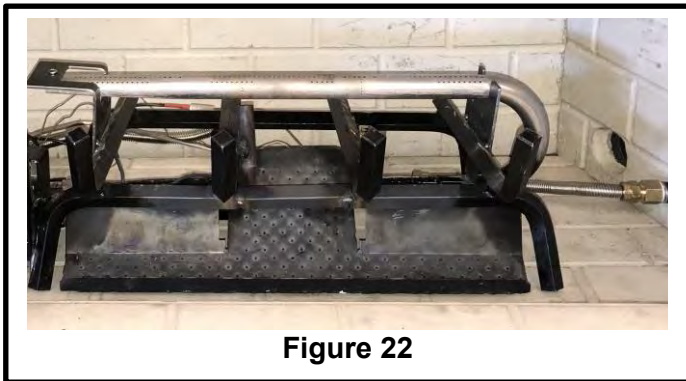

Figure 22
7. Attach the flex connector to the adapter as shown in Figure 22. Tighten securely. IF FLEX LINE IS NOT LOG ENOUGH, LONGER FLEX LINES CAN BE PURCHASED AT YOUR LOCAL HARDWARE STORE.